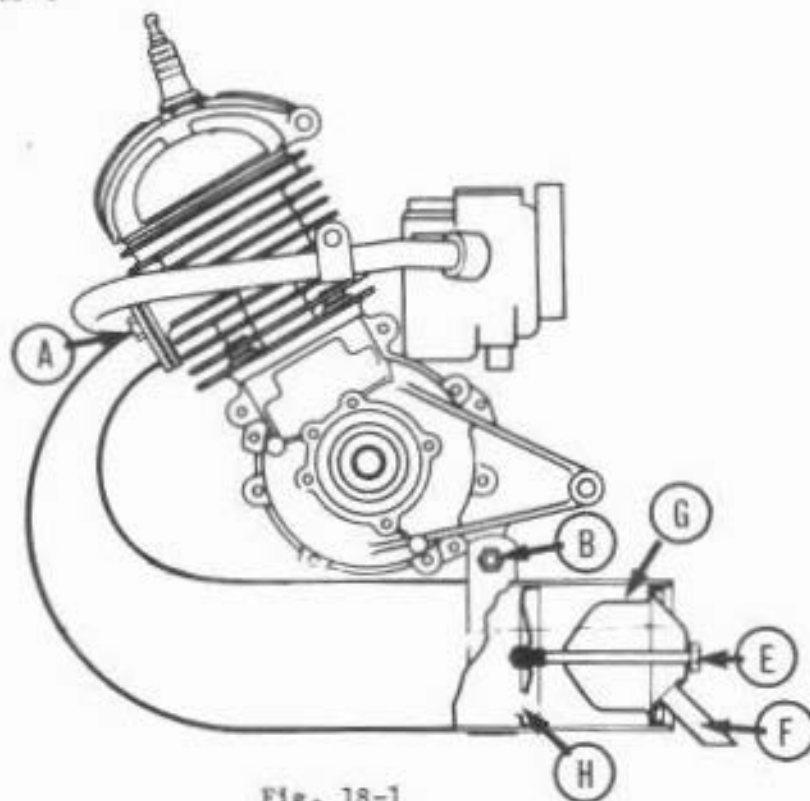

Fig. 18-1
- 1) Remove the 2 exhaust flange nuts and washers "A" Fig.18-1
- 2) Remove the muffler clamp bolt and nut "B" Fig.18-1
- 5) Remove the bolt "E" Fig. 18-1 at end of muffler and then remove the end cap "F" Fig. 18-1 and clean out the tail pipe.
- 6) Remove the baffle plate "G" Fig.18-1 and clean out the holes in it.
- 7) Clean the hole "H" Fig.18-1 in the inner fixed baffle plate.